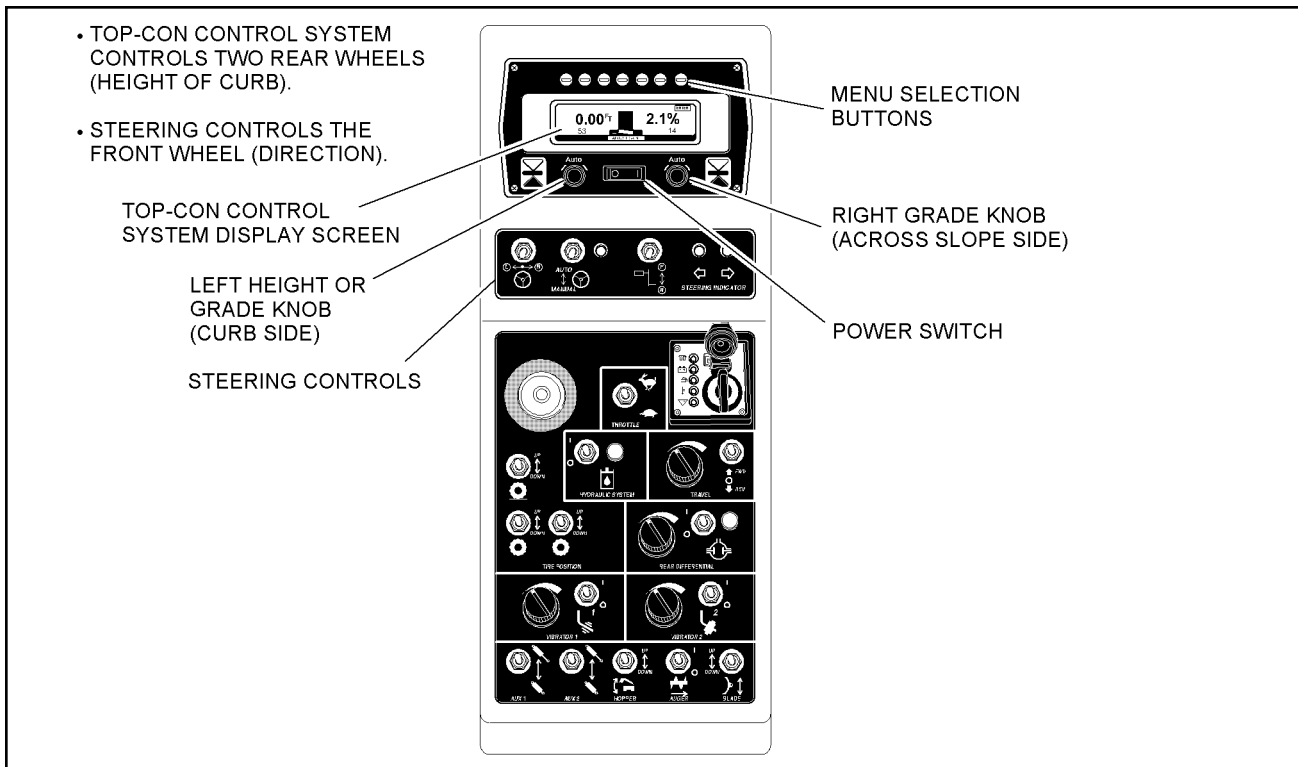
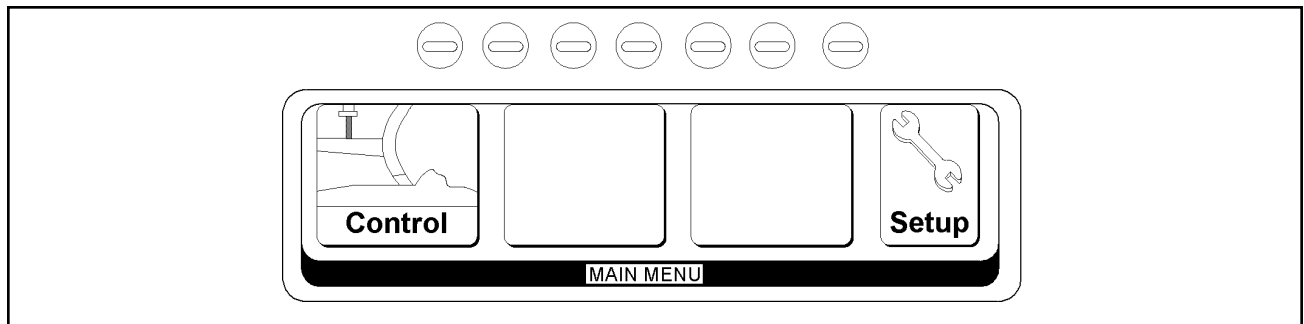

FIGURE 3-7. CONTROL PANEL
FIGURE 3-8. BASIC OPERATION
Turn the Control Box on by placing the Top-Con Power switch (Figure 3-7 and Figure 3-1, item 5) in the ON position and turn the key to start the engine. The standard control screen (Figure 3-8) allows the operator to select either Control, or Setup. The adjustments and settings will appear as set the last time the control box was shut off. To work in the
modes (Figure 3-8), press the function button directly above the desired display.